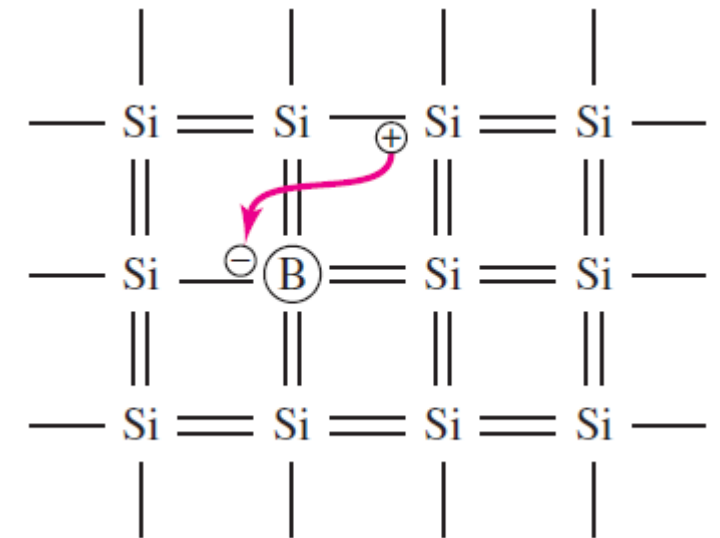

Figure 1.7(b)
- This effect is shown in Figure 1.7(b).